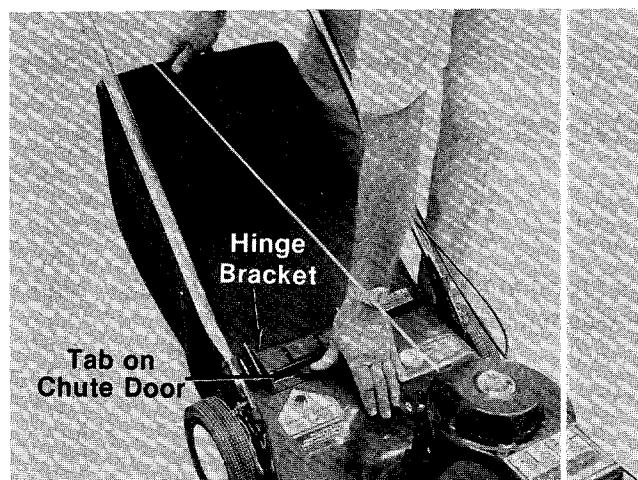

FIGURE 15.
3. Push the tab on the chute door. The grass catcher frame will snap into place, secured by the chute door. See figure 15.
To remove the grass catcher, press the tab on the chute door and slip the grass catcher off the unit. See figure 15.